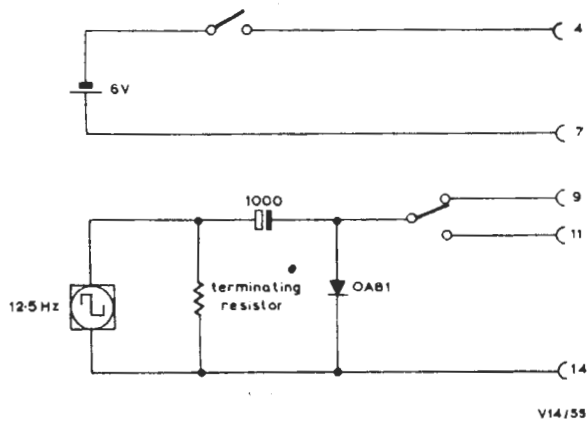

Fig. 5 Test Unit for the UN17/509
3. Feed the output of the oscillator to the UN17/509 using the test unit shown in Fig. 5. Connect the oscilloscope to the collector of transistor TR1 and switch the input pulses to pin 9. Adjust the output level of the oscillator so that the amplitude of the observed waveform is  $4.2 \pm 0.2$  volts p-p. Check that the motor rotates clockwise, as seen from the front of the unit.